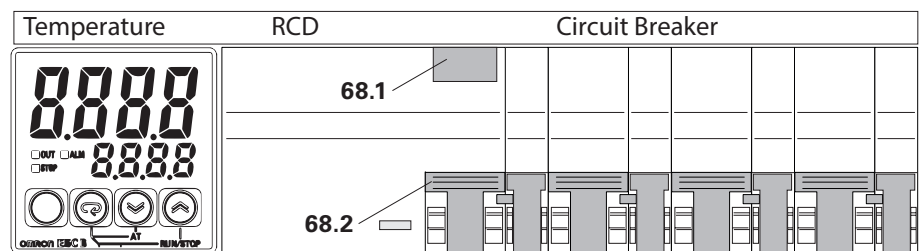

Fig. C3.02
2. Once a week, press test button (68.1) on the residual current circuit breaker. (Fig. C3.02) Residual current circuit breaker must be triggered. If the circuit breaker is not triggered, the switch cabinet is not to be operated.